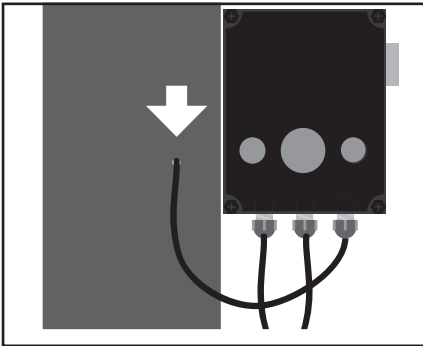

Fig. 20
1. Route the long control panel cable through the hole to the inside of the column (Fig. 20).